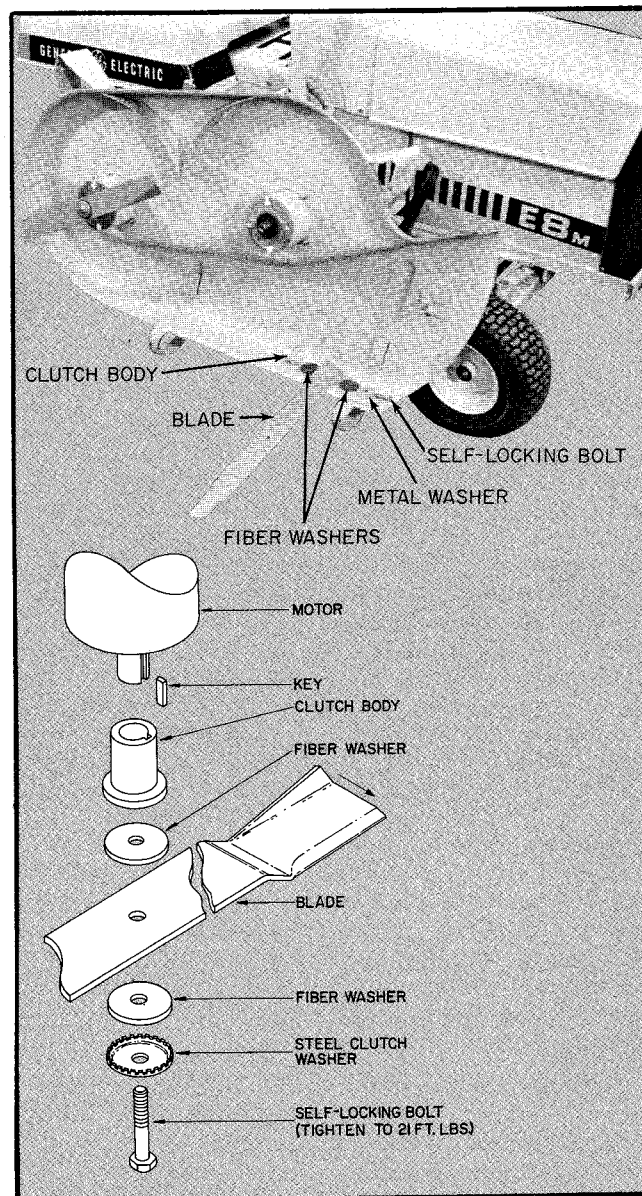

Figure 9
the front of the mower. Mount the other motor so its wire box is towards the rear of the mower. Secure each motor with four screws, lockwashers, and nuts with the screw heads on the top side of the deck. (See Figure 9.)
4. Install the clutch and blade assemblies. Model E8HM tractors are supplied with 2 sets of blades. The high profile (black) blades give a high discharge velocity and the low profile (yellow) blades give extended mowing range with lower discharge velocity. Install in like pairs only. Observe the blade placement so the cutting edge is in the proper direction for rotation. Tighten each self-locking cap screw to approximately 21 foot-pounds of torque. Make sure the square key stays in place when installing each clutch hub. (See Figure 9.)